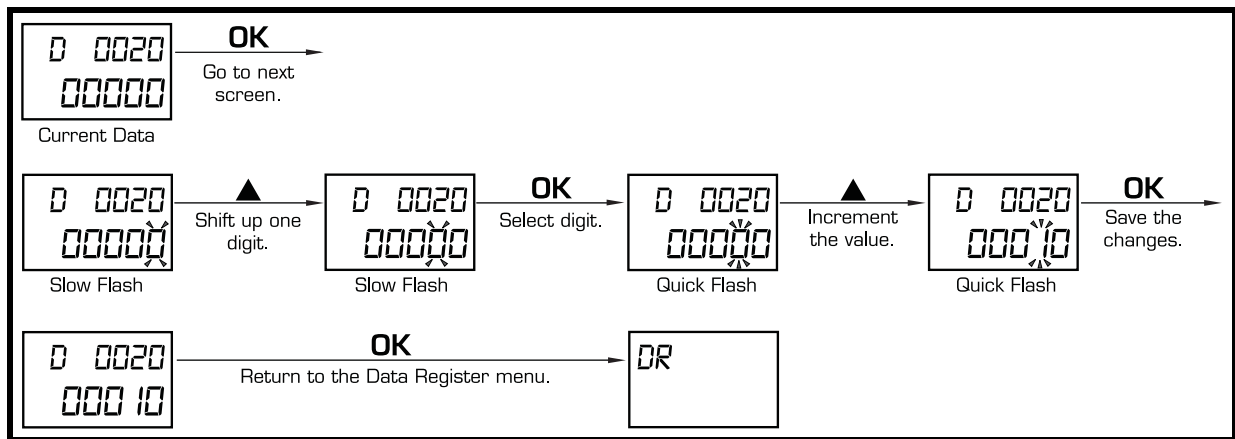

Figure 7. Setting On Time
3. Follow the steps in Figure 7 to input the number of seconds for the on time. The recommended on time is 10 seconds.